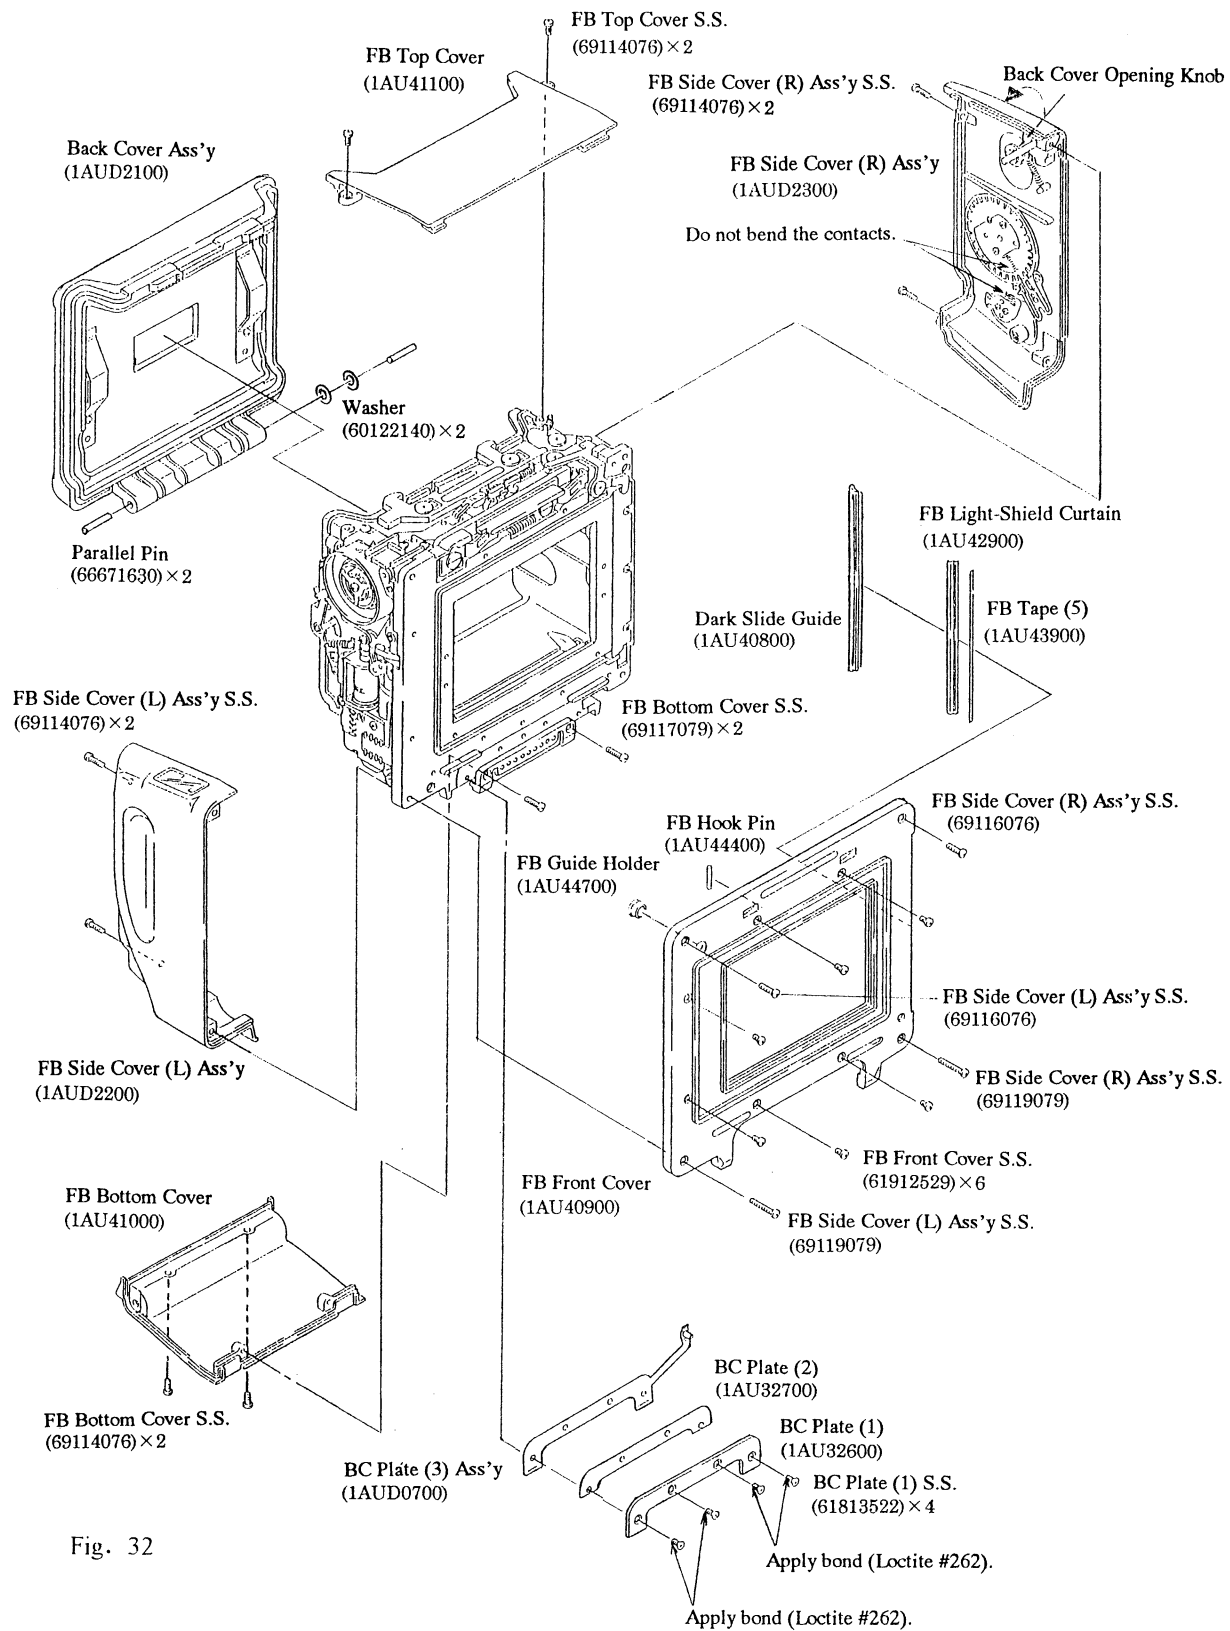

Fig. 32
- 1) While pushing the pin of the BC Plate (2) Ass'y with tweezers or the like, pull out the Dark Slide (1AU40100). (See Fig. 32)
- 2) Remove the FB Side Cover (R) Ass'y Setscrews (69119079), (69116079).
- 4) Remove the FB Side Cover (R) Ass'y Setscrews (69114076) \times 2 and take off the FB Side Cover (R) Ass'y (1AUD2300).